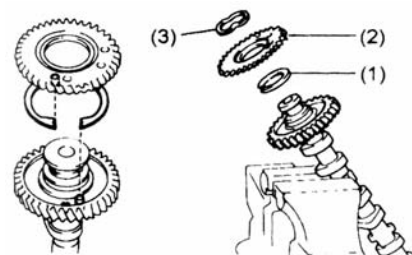

Figure 61
(1) Clamp the camshaft's hexagon head with a vise.
(2) Install camshaft gear spring, camshaft counter gear and waved washer. (Figure 61).